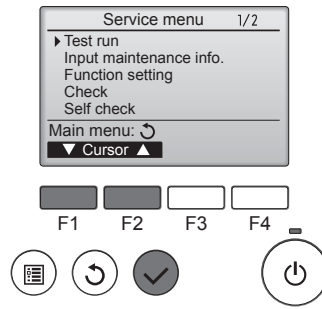

Fig. 7-4
- ③ Select "Test run" with the or button, and press the button. (Fig. 7-4)